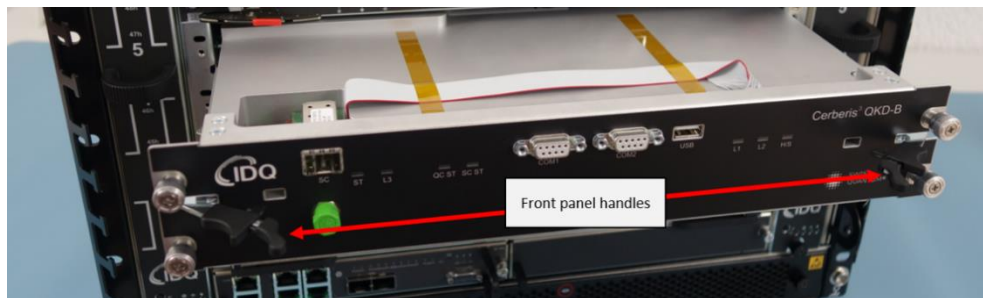

Figure 14: Proper position of the front panel handles before inserting the blade.
1. Ensure that the left and right ejector handles are in the outward position by squeezing the lever and the latch together (see Figure 14).